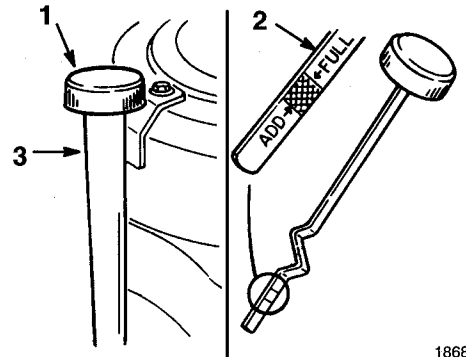

Figure 28
3. Clean around the oil dipstick (Fig. 28) so dirt cannot fall into the filler hole and damage the engine.
4. Unscrew the oil dipstick and wipe the metal end clean (Fig. 28).
5. Screw the oil dipstick fully onto the filler tube (Fig. 28). Unscrew the dipstick again and look at the metal end. If oil level is low, slowly pour only enough oil into the filler tube to raise the level to the "FULL" mark.
6. Slowly pour approximately 80% of the specified amount of oil into the filler tube (Fig. 28). Now check the oil level; refer to Checking Oil Level, page 30, steps 4–5.